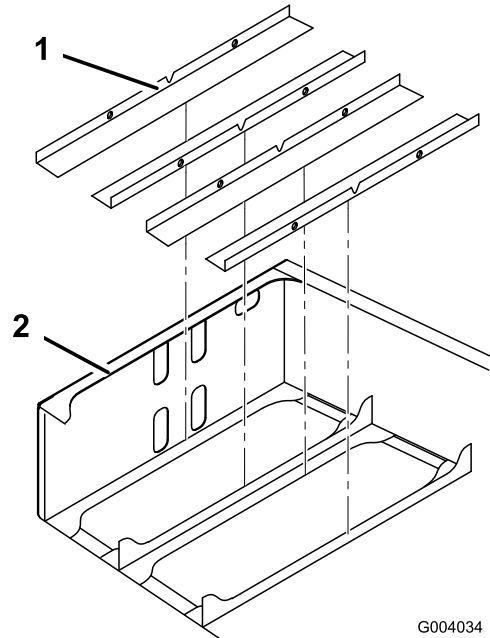

Figure 9
2. Install the battery tray pads into the rear frame assembly as shown Figure 9.